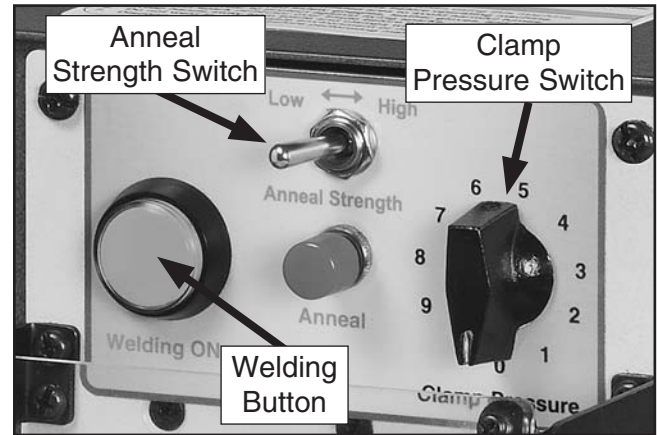

Figure 16. Welding controls.
- Use the tables below to set the clamp pressure switch and the anneal strength (see **Figure 16**).